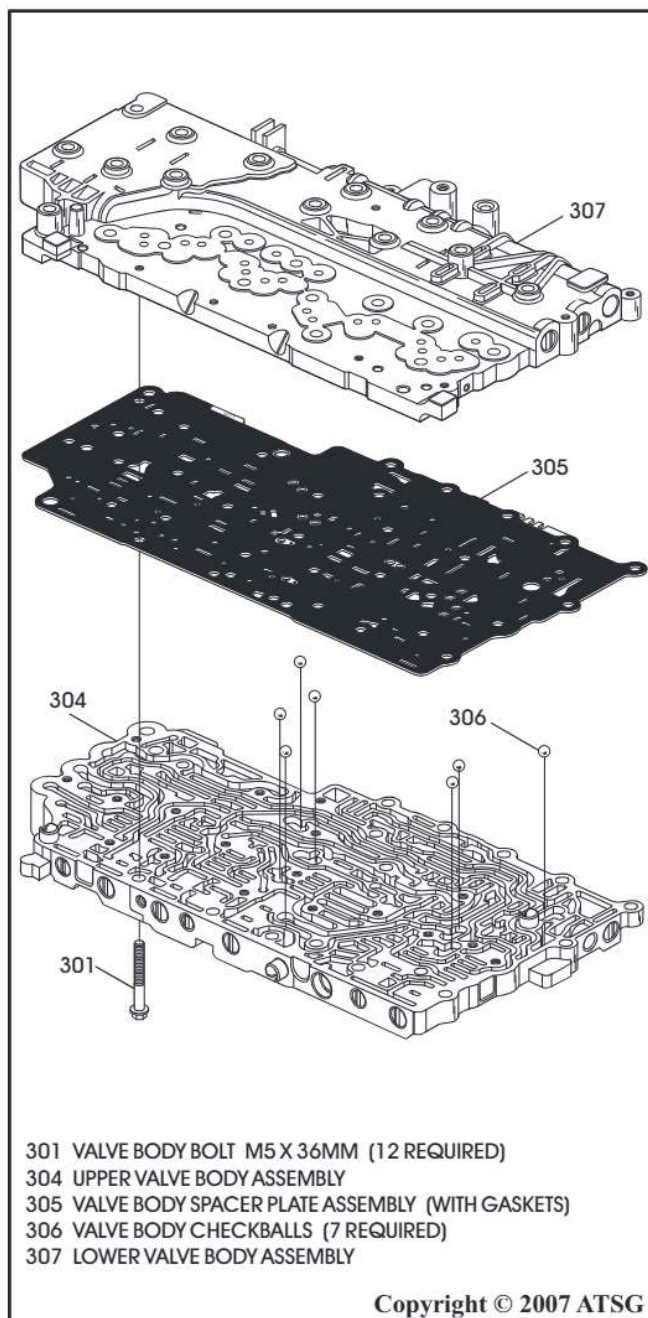

Figure 143
20. Install a **new** spacer plate and gasket assembly over locating dowels, as shown in Figure 143.
21. Install the lower valve body over the locating dowels and on top of the spacer plate, as shown in Figure 143.